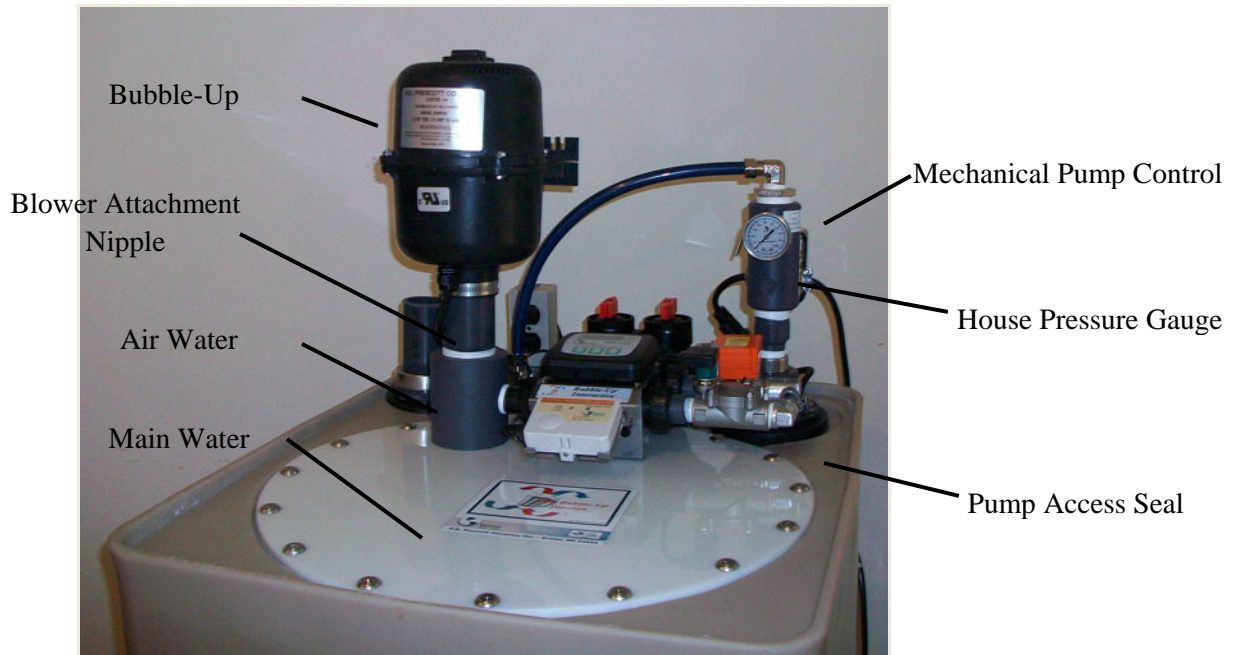

Figure 7 - Installation Points
10. Pour one ounce of bleach into the blower attachment nipple to disinfect the unit. See Figure 7 for location of blower attachment nipple.
Figures 7 through 15 list some of the replacement parts on Bubble-Up® Interactive™. Figures 16 and 17 show the parts included in the Retrofit Kit. This kit is used to upgrade a Bubble-Up® XP to a Bubble-Up® Interactive™. See dealer for more information regarding this Retrofit Kit. There is a parts list on pages 16 and 17. Here are some points to keep in mind when replacing parts: